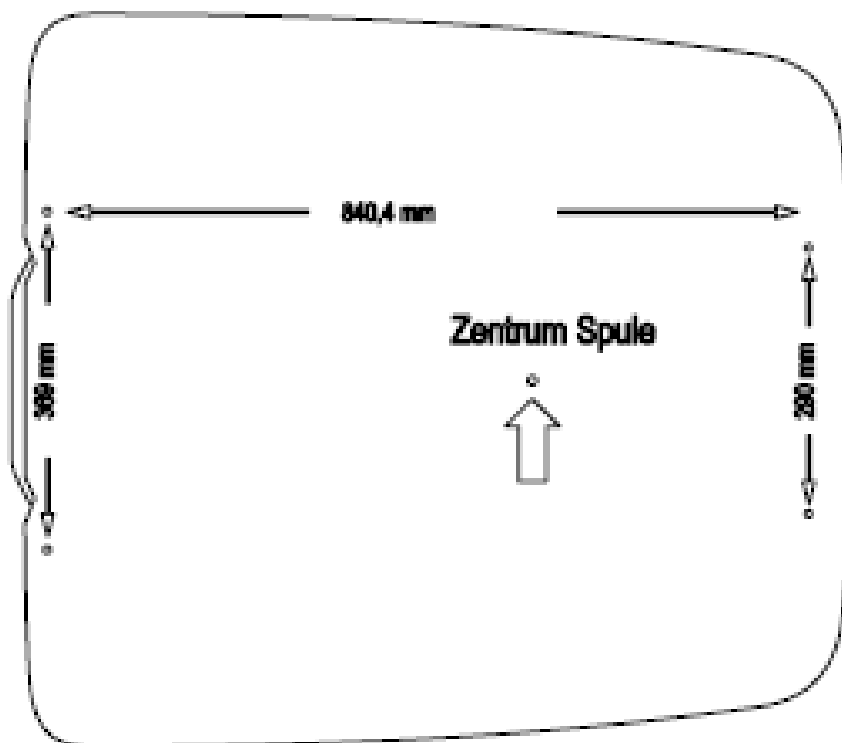

Figure 17: Drilling template for GPM mounting rail
1. For the mounting rails 8 mm diameter holes are drilled according to the drilling template (see Figure 17: Drilling template for GPM mounting rail).